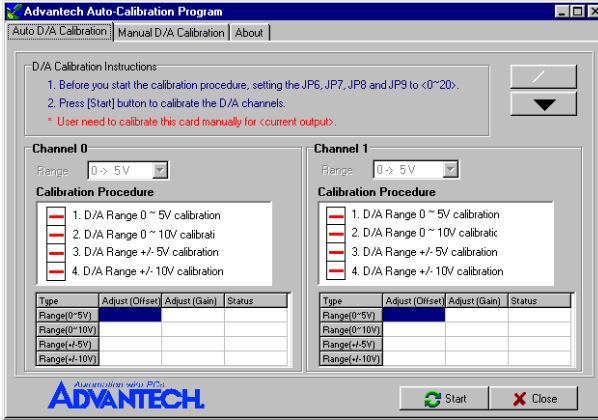

Figure D-4: Range Selection in D/A Calibration
Step 4: There are four D/A channels in PCI-1721, select the output range for each channel and then press the **Start** button to calibrate D/A channels (Fig. D-4).